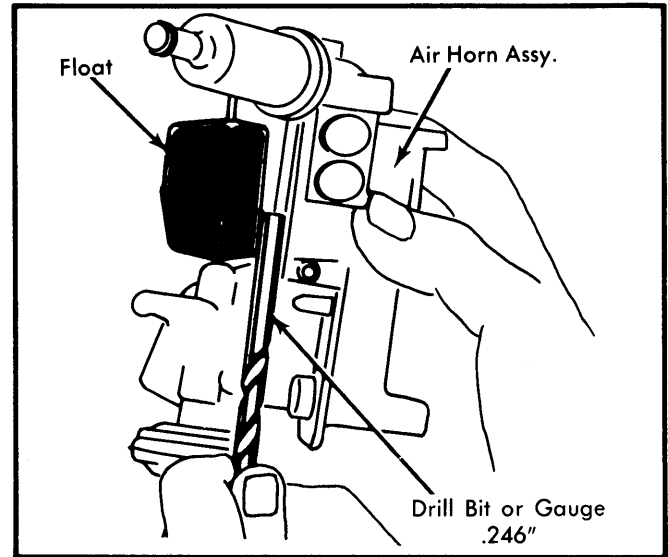

Fig. 2 Float Level Adjustment
- 4) Hold carburetor in vertical position. See Fig. 2.